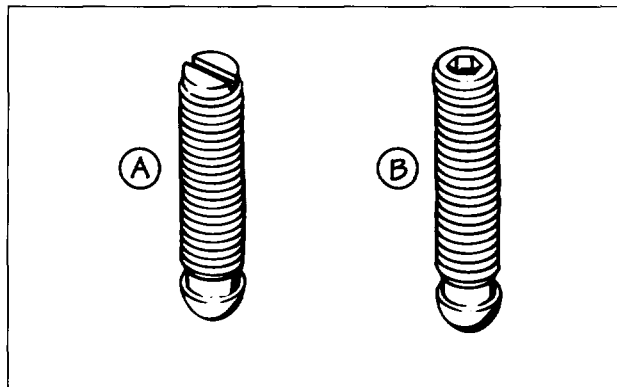

FIG. 10
Remove the exhaust rocker arm adjusting screws and replace with Jacobs screws. The Jacobs screws (B) have hex socket heads; Caterpillar screws (A) have a screwdriver slot (see Fig. 10). Turn the screw all the way in from the bottom of the rocker arm.